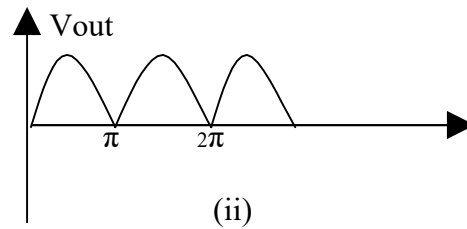

Fig. 2.6 Centre tapped Full wave rectifier (i) Circuit diagram (ii) waveforms
- The circuit diagram of a center tapped full wave rectifier is shown in fig. 2.6 above. It employs two diodes and a center tap transformer. The a.c. signal to be rectified is applied to the primary of the transformer and the d.c. output is taken across the load R_L .